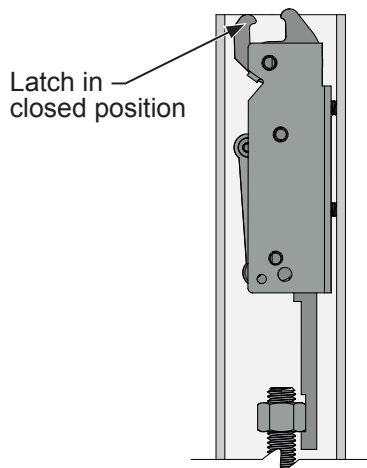

FIG. 22
1. The door must be in the closed position and the push bar must be in the un-dogged position to complete the following adjustments. **(Fig. 22)**